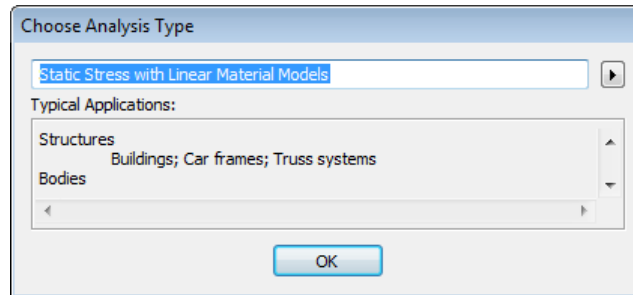

Figure 3-39 The Choose Analysis Type dialog box
5. Select the **Table.SLDASM** file and then choose the **Open** button from the **Open** dialog box; the **Surface Splitting** dialog box is displayed. Choose the **No** button from the **Surface Splitting** dialog box; the **Choose Analysis Type** dialog box is displayed with the **Stress with Linear Material Models** analysis type selected by default in it, as shown in Figure 3-39.